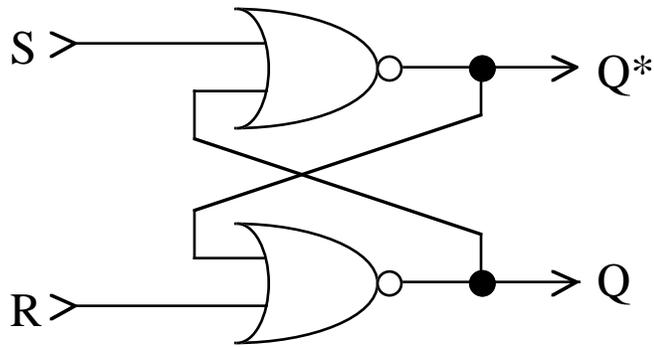

Figure 7. R-S Flip-flop
- (d) Using the gates on a 7402, build the circuit shown in Figure 7.
Determine the truth table for this circuit and record your measurements in Data Table 3. This is actually a R-S flip flop and can have very perplexing behavior. Unlike combinational logic it works based upon the two inputs (R and S) AND the current (called the previous) output. To help you understand this circuit the theoretical behavior of an R-S flip-flop is shown in Figure 8. Notice that the new output (Q_{n+1}) is described in terms of R, S and the previous value of Q (called Q_n). DO NOT CONFUSE Q_{n+1} with the Q^* shown in Figure 7 — Q_{n+1} is the NEXT state (value) of the Q output of Figure 7. The actual operation of the R-S flip-flop can be more easily understood by a simple explanation. The R (also called the RESET) will always reset the Q output to zero (LOW) irregardless of the previous state of the output. The S (also called the SET) will always set the Q output to one (HIGH) irregardless of the previous state of the output. There will be no change in the Q output if both R and S inputs are zero (LOW). However, there is a problem if both R and S inputs are one (HIGH). Technically, you are trying to SET and RESET the output at the same time. As a result the output can be random and, consequently, undefined. In general, the Q^* output of Figure 7 should behave as the NOT of Q and does not need to be separately explained.